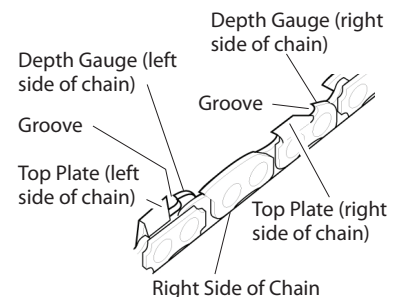

Figure 33 - Chain Part Locations
- Hold file guide level. Make sure 30° mark on file guide is parallel to center of guide bar (see Figure 33). This will insure that you file cutters at 30° angle.
- File from inside towards outside of cutter until sharp. Only file in this one direction (see Figure 33). **Note:** Two or three strokes with file should sharpen cutter.